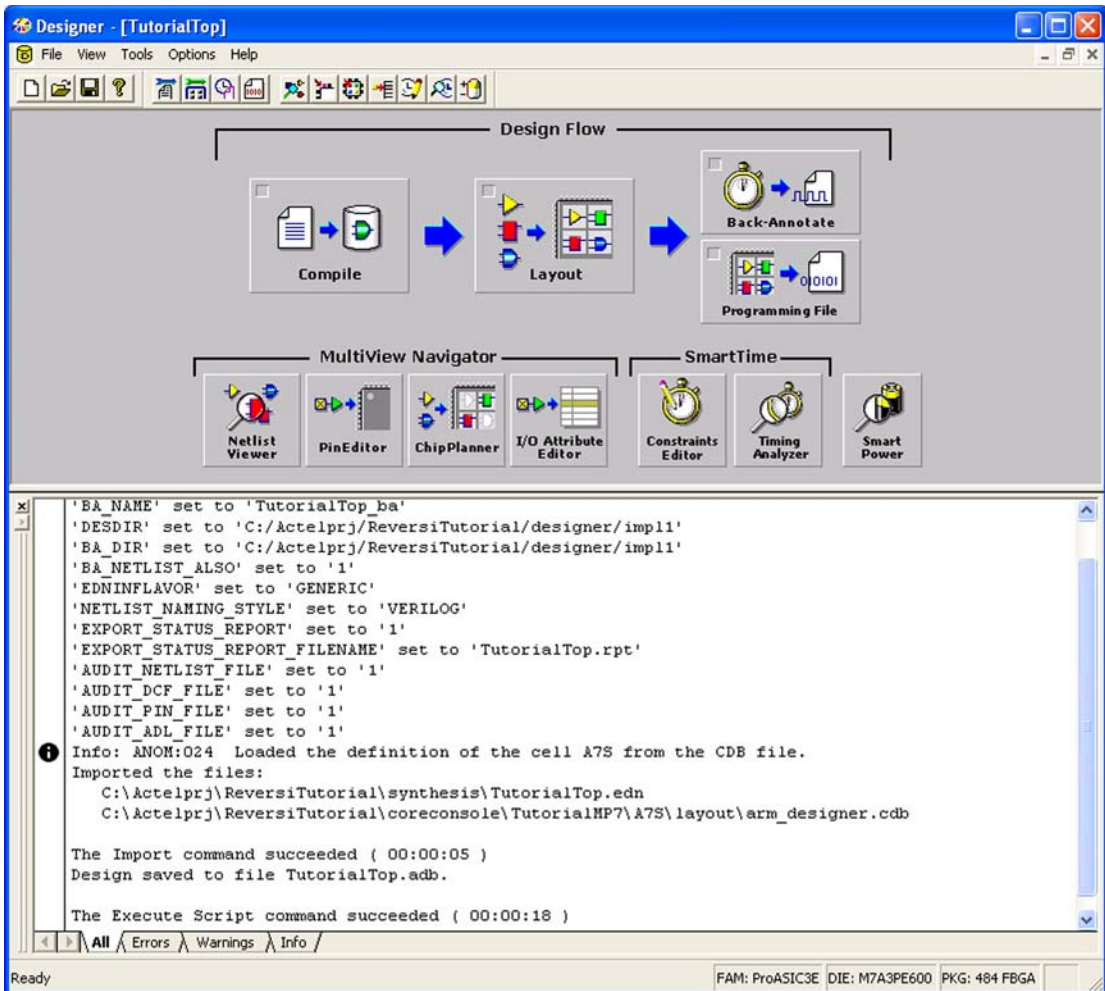

Figure 5-39. Actel Designer GUI
- Click the Designer **Place & Route** button in the Libero IDE Design Flow window, or right-click *TutorialTop.v* in the **Design Hierarchy** tab and select **Run Designer**. Designer reads in the design file (Figure 5-39).